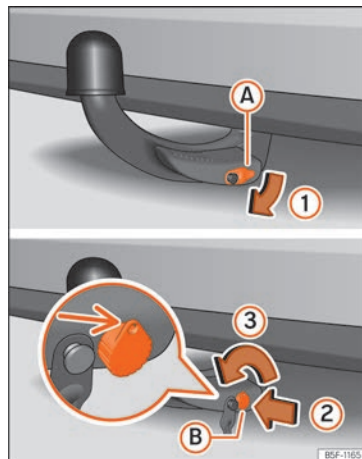

Fig. 257 Removing the tow hook
- Remove cover (A) from lock (1) » Fig. 257.
- Insert key (B) in the lock (2) » Fig. 257.
- Turn the key to the left (3) just half turn, until the hole in the key is facing upwards » Fig. 257.